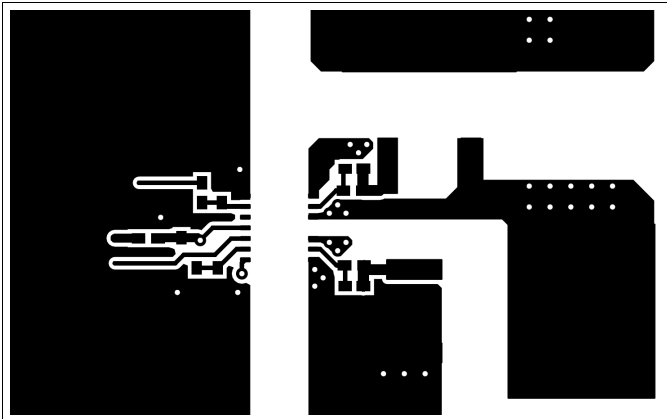

图 44. Top Layer Traces and Copper
- Increasing the PCB copper connecting to VDDA, VDDB, VSSA and VSSB pins is recommended, with priority on maximizing the connection to VSSA and VSSB (see 图 44 and 图 45). However, high voltage PCB considerations mentioned above must be maintained.
图 44 and 图 45 shows top and bottom layer traces and copper.